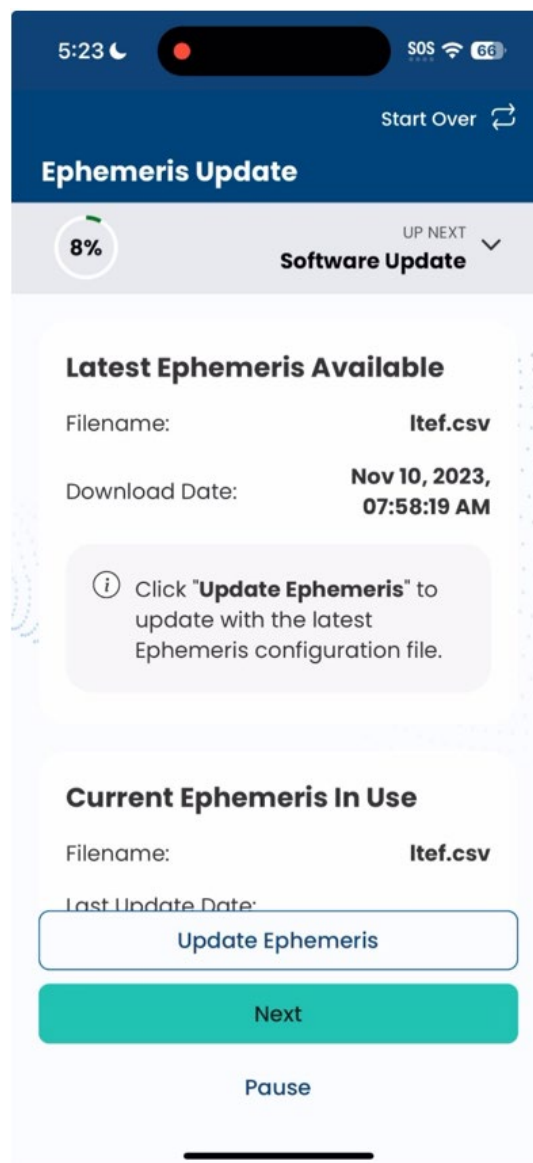

Figure 88: Uploading the ephemeris file to the user terminal
1. The first step is to upload the latest OneWeb satellite ephemeris data. To do this, click **Update Ephemeris** as indicated in Figure 88. When this is finished you will see a success message.
Note: As mentioned at the beginning of this chapter, the app would have downloaded the latest ephemeris file from the cloud to the smartphone. The name of the file downloaded to the smartphone (Itef.csv) and the download timestamp are shown on the screen in Figure 88. This screen also shows the current ephemeris file in use on the UT and when this ephemeris file was last updated on the UT.